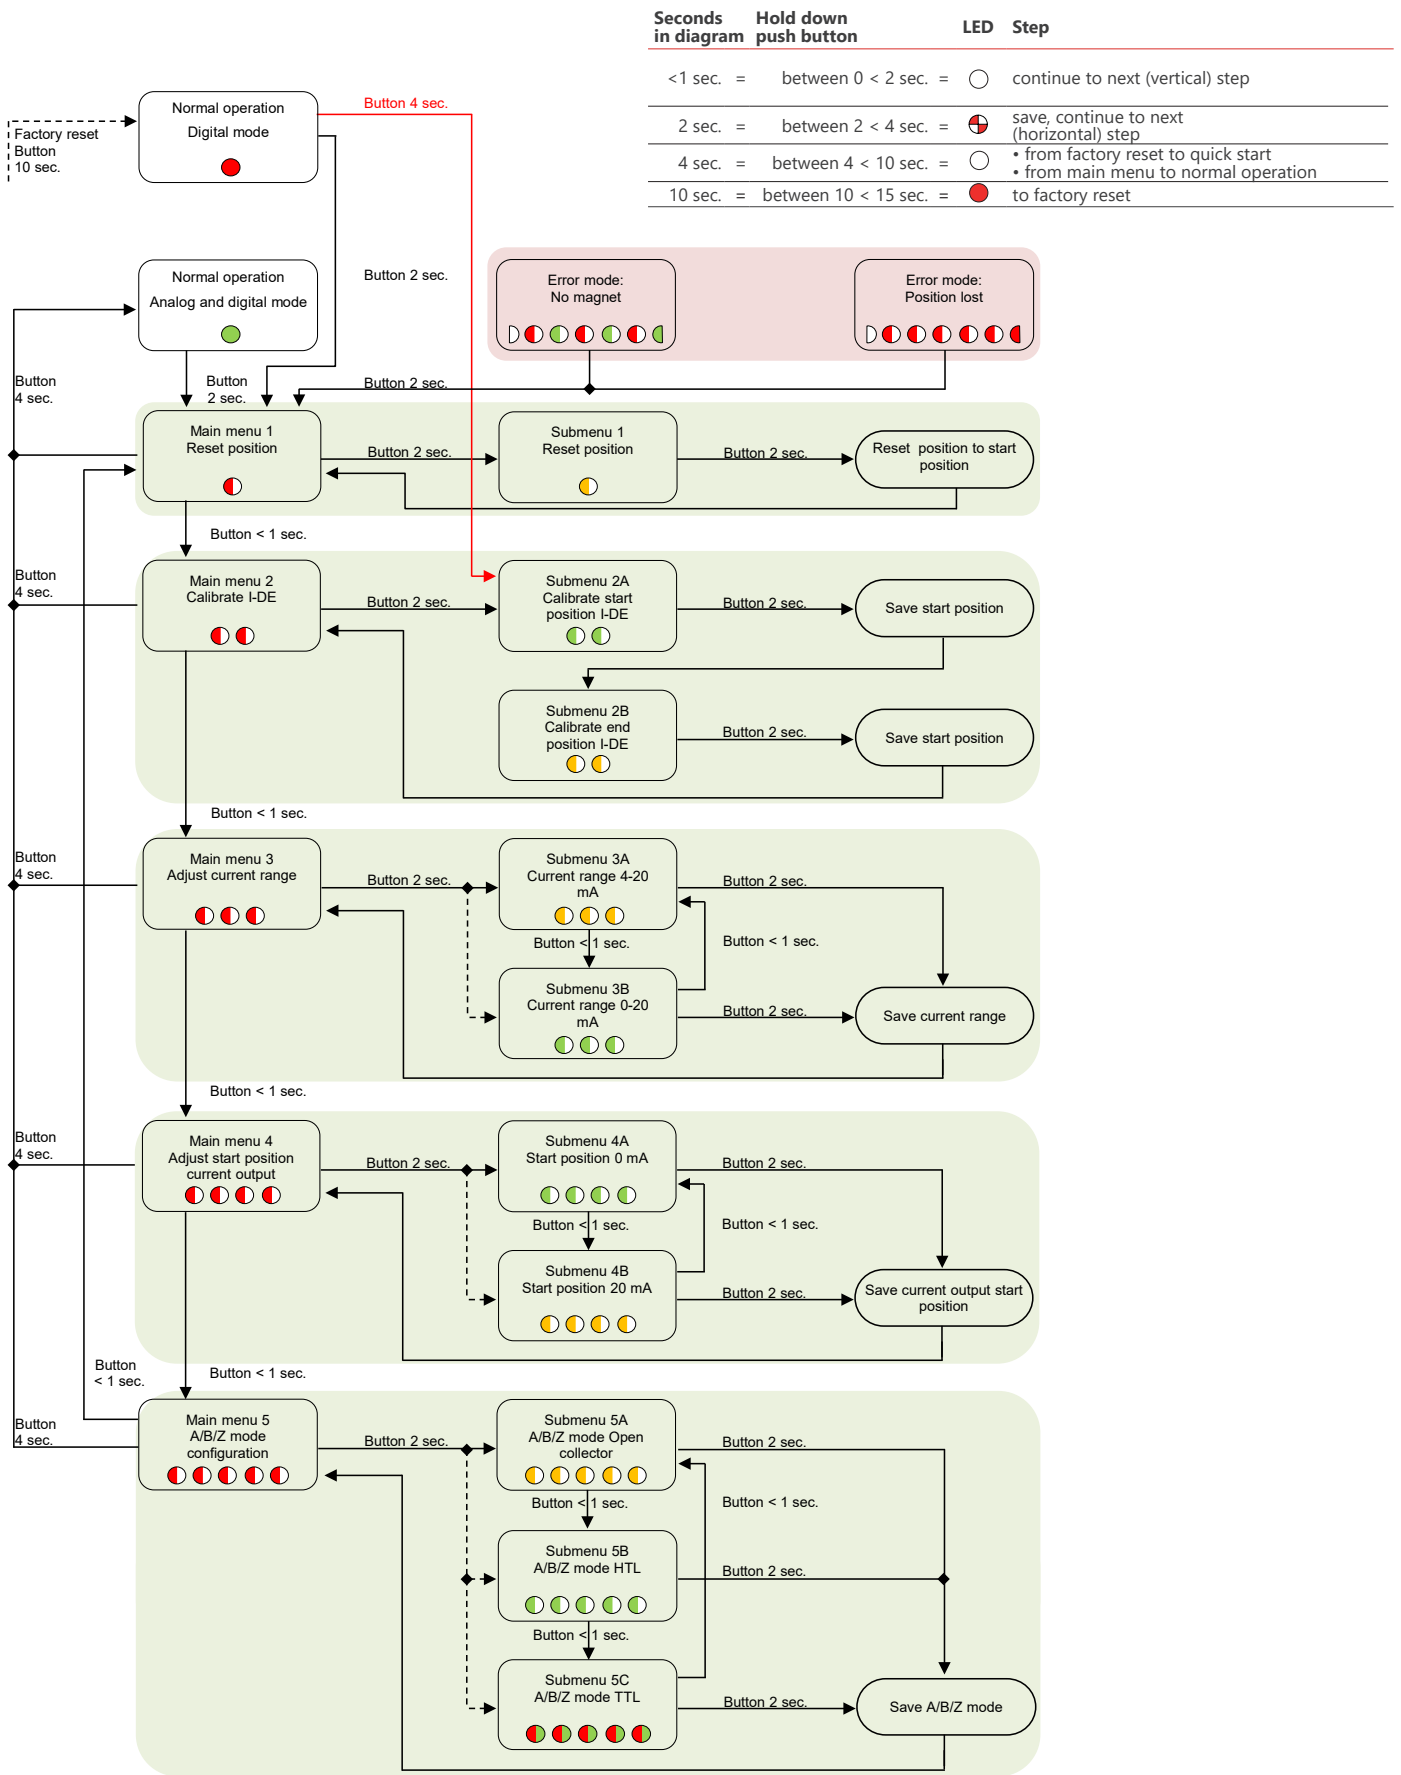

Figure 7 - I-DE flow diagram
Figure 7 shows a flow diagram of the I-DE. This diagram employs the symbols described for the LED and distinguishes between the different push button actions.
**NOTE:** The step-by-step plan below assumes that the I-DE is currently in «**main menu 1**» (see **Figure 7**).
**NOTE:** The step-by-step plan below assumes that the I-DE is currently in «main menu 1» (see Figure 7).
**NOTE:** The step-by-step plan below assumes that the I-DE is currently in "main menu 1" (see **Figure 7**).